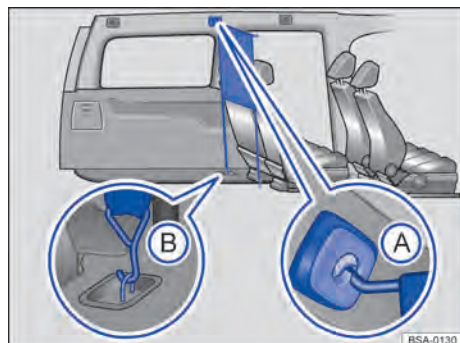

Fig. 152 Behind the second row of seats: Fitted net partition.
1. Hook the net partition into the *front left* (5-seater) or *centre left* (7-seater) mounting in the roof → Fig. 152 (A). Ensure that the transverse rod is pulled up over the upper position so that it latches securely in the slots.
3. Hook the net partition into the lower fastening rings → Fig. 152 (B).